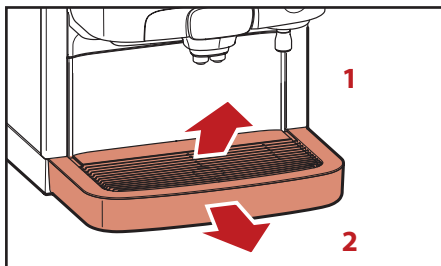

Fig. 5.1 - Remove cup & drip trays
1. Remove the cup tray (fig 5.1, 1).
2. Remove the drip tray (fig 5.1, 2).